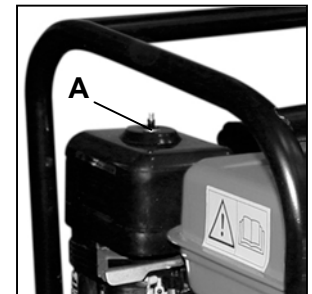

Figure 5
1. Remove the air filter cover, which is held in place by a wing nut and is located on top of the Water Pump. (A, Figure 5)